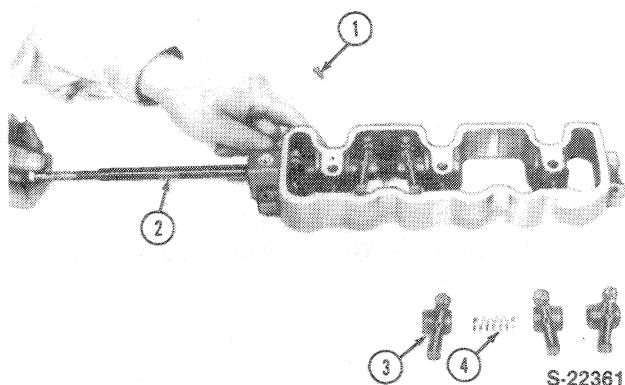

Figure 25
1. Remove the set screw (1), Figure 25.
3. Thread a 8 mm bolt into the rear end of the rocker shaft and slowly withdraw the rocker shaft while at the same time removing the rocker arms and springs, Figure 25.
**NOTE:** A set screw (1), Figure 25, locks the rocker shaft in place in the support. Remove the set screw before attempting to remove the rocker shaft.